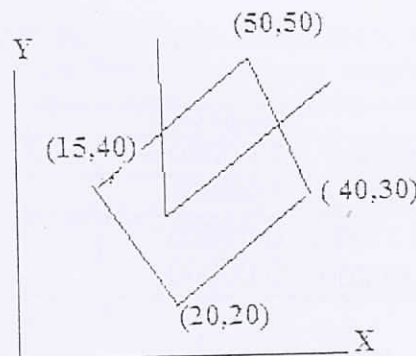

Fig 15a
- 15.a) (i) For the four noded element shown in Fig 15a determine the Jacobian and evaluate its value at the point (1/4, 1/4) (8 Marks)